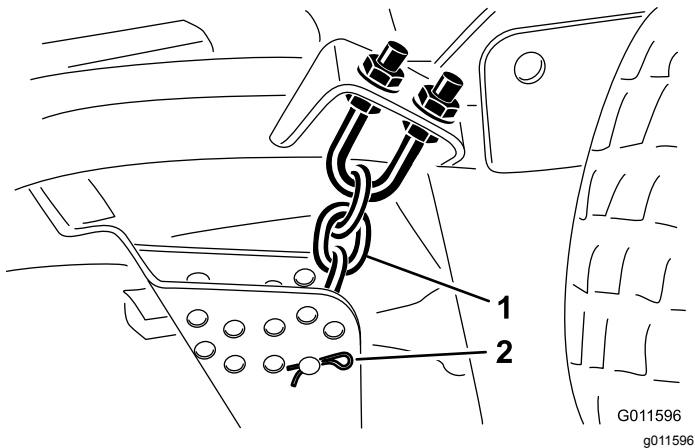

Figure 7
1. Lift-arm mount (2)
11. Remove the hair pin cotters and the clevis pins securing the height-of-cut chains to the rear of the cutting unit (Figure 7).